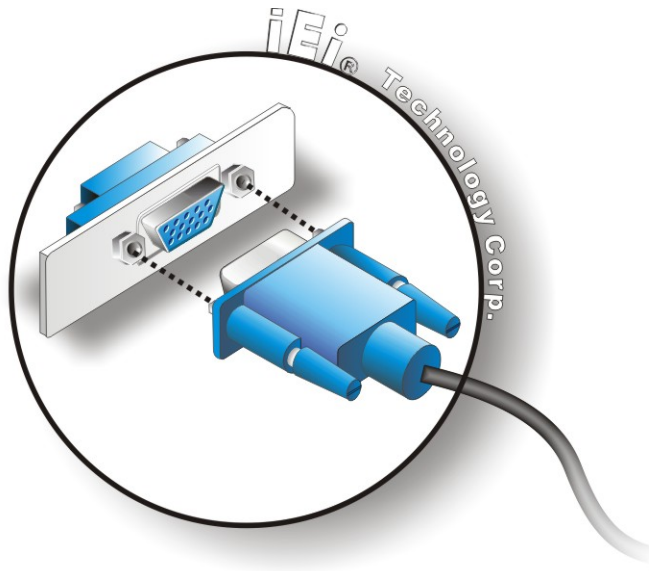

Figure 4-24: VGA Connector
Step 3: Insert the VGA connector. Once the connectors are properly aligned with the insert the male connector from the VGA screen into the female connector on the SPCIE-5100DX. See **Figure 4-24**.